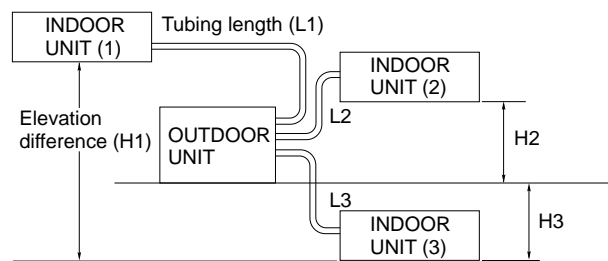

Fig. 1
- install the unit within the maximum elevation difference (H1, H2, H3) above or below the outdoor unit and within a total tubing length (L1+L2, L1+L2+L3) from the outdoor unit as detailed in Table 1 and Fig. 1.